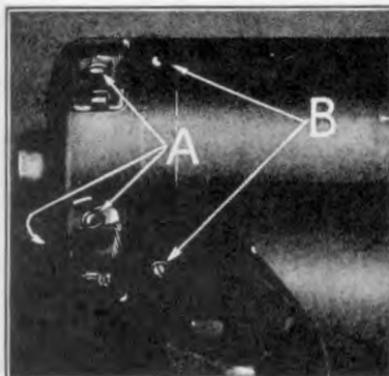

Fig. 457
- Run out the three brush holder screws (See "A" Fig. 457), which hold terminal and field leads to brush holders.
- 931 Install brush end bracket on yoke and run-down the four bracket to yoke screws (See "B" Fig. 457).